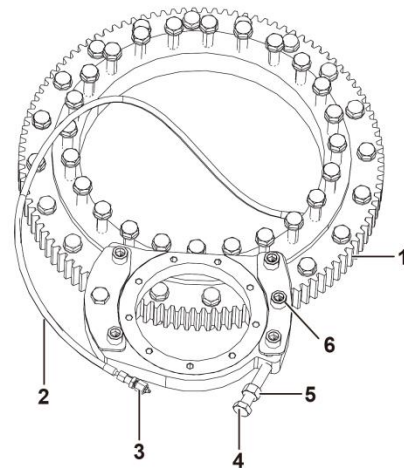

Figure 1-4 Slewing mechanism
- As shown in Fig. 1-4, find the grease filler 3 next to the slewing reducer, connect the greaser, and rotate the rotary table several times while filling grease until the grease overflows from the upper and lower fixing surfaces of the slewing bearing. Grease grade: lithium base grease 2#.